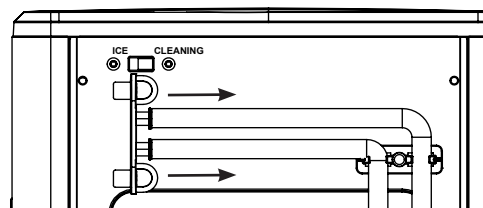

Figure 8
16. Replace drain tubes on back. See figure 8.